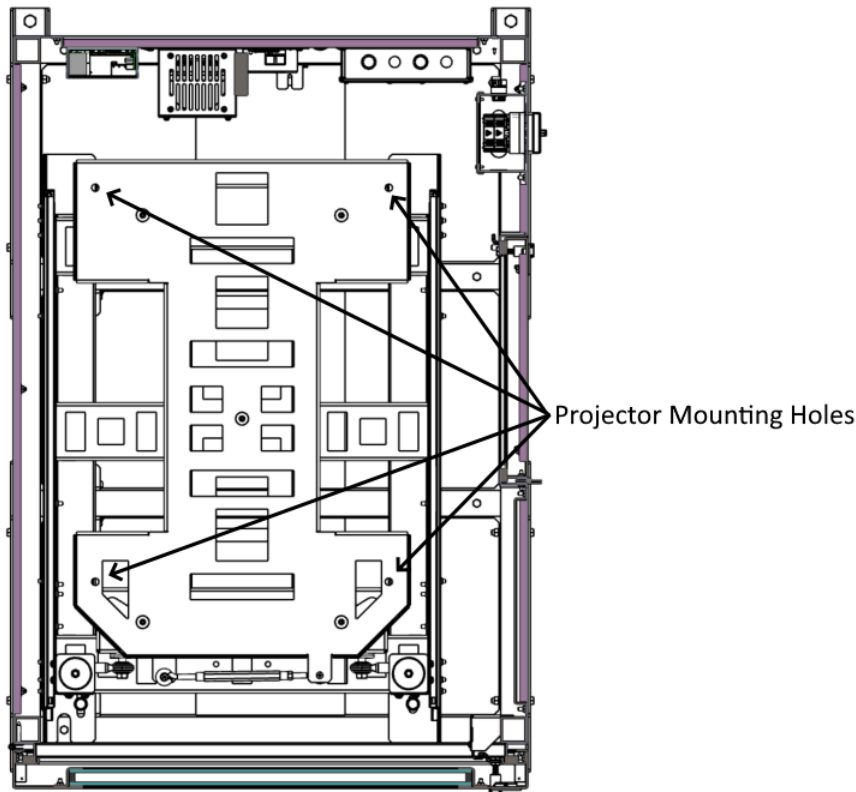

Figure 7: Enclosure Interior
1. Once the front access door has been opened, locate the slide lock release on the front of the drawer slides (see Figure 7).
2. Extend the projector mount slides from the front of the enclosure by pressing the slide lock release and gently pulling the projector mount out (see Figure 7).